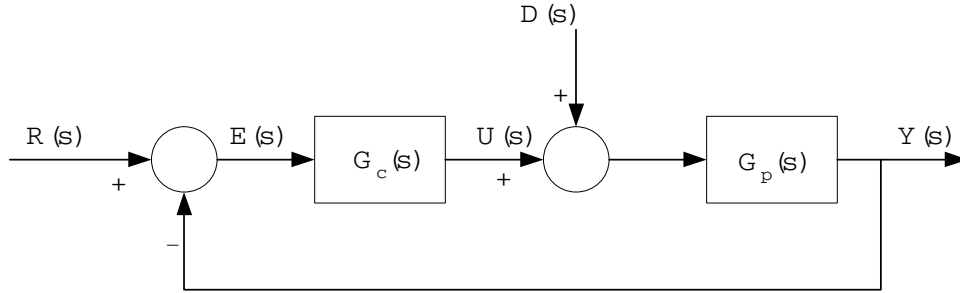

Fig. 1. System block diagram for pitch mode control of a small aircraft.
3. Develop a SIMULINK model corresponding to Fig. 1. Simulate the compensated system under each of the following 4 conditions. Plots of the output signal must be provided for each of the conditions. Plots for the first two conditions should be on the same graph, and plots for last two conditions should be on the same graph. Also include the SIMULINK diagram for your system in the report.